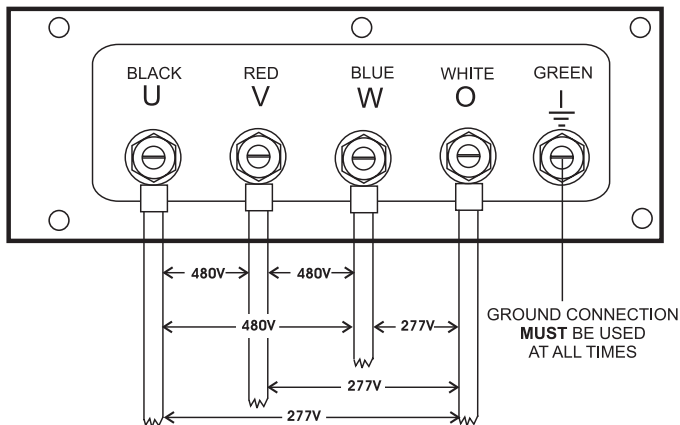

Figure 28. UVWO Terminal Lugs 240/139V Three Phase Connections
2. Connect the load wires to the UVWO terminals as shown in Figure 28.